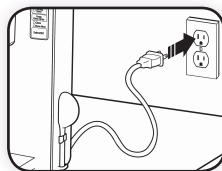

Figure 4
- 1 Plug power cord into a standard electrical outlet. (Figure 4) The digital clock flashes "AM 12:00" indicating the time needs to be set.